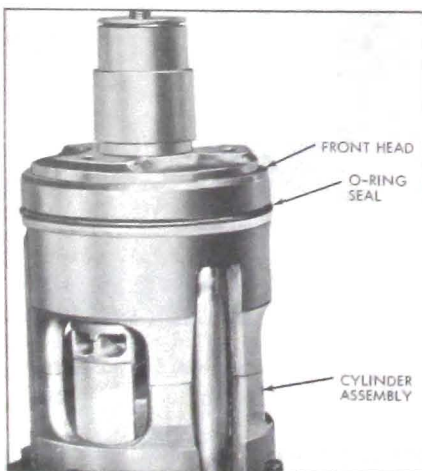

Figure 11-145—Cylinder and Front Head Assembly
7. Install a new head to shell "O" ring on shoulder at rear of front head. See Figure 11-145.